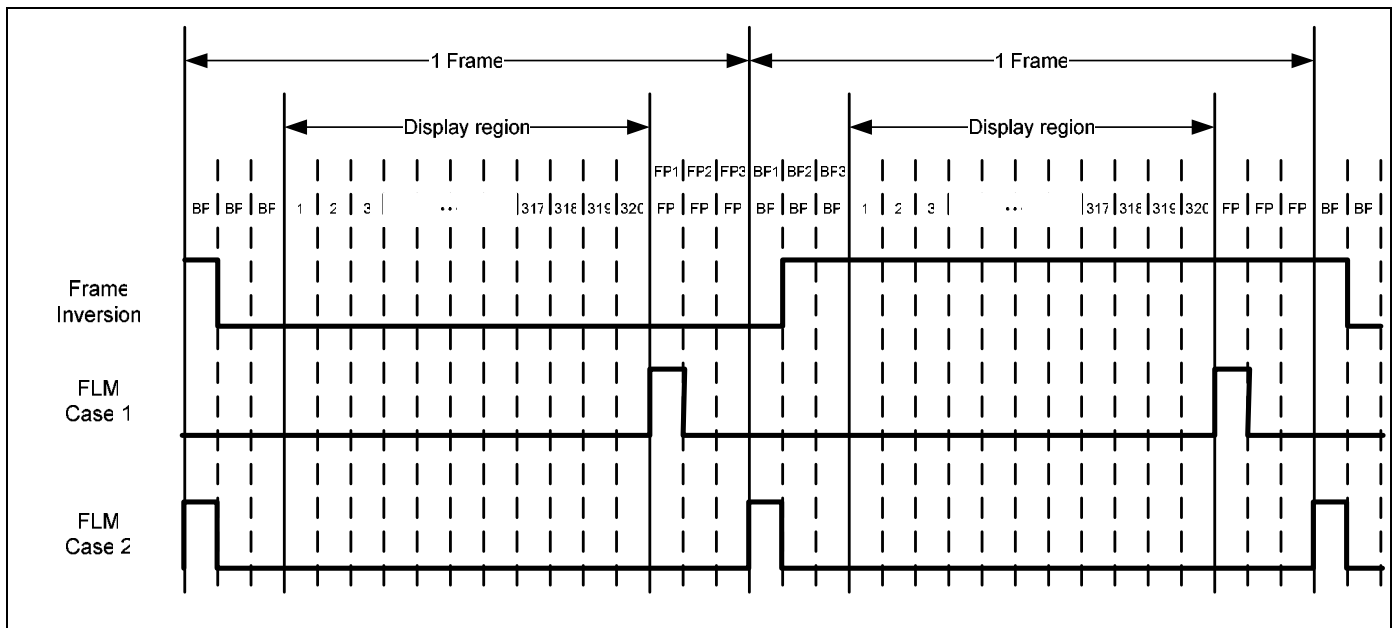

Figure 7.2.4 FLM Signal Generation Timing
2. From figure 7.2.4, the case1 is FMP=2'b00, and the case2 is FMP=2'b11.